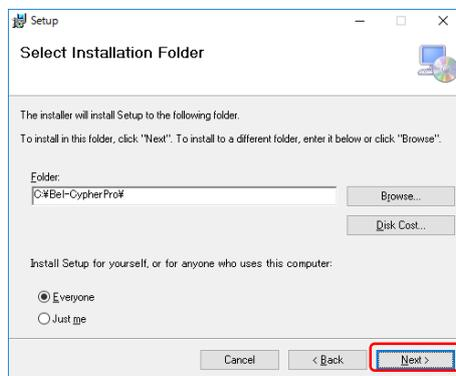

Fig 4-5 “Select Installation Folder” screen
7) The “Select install folder” dialogue such like Fig. 4-5 is displayed. Click “Next”